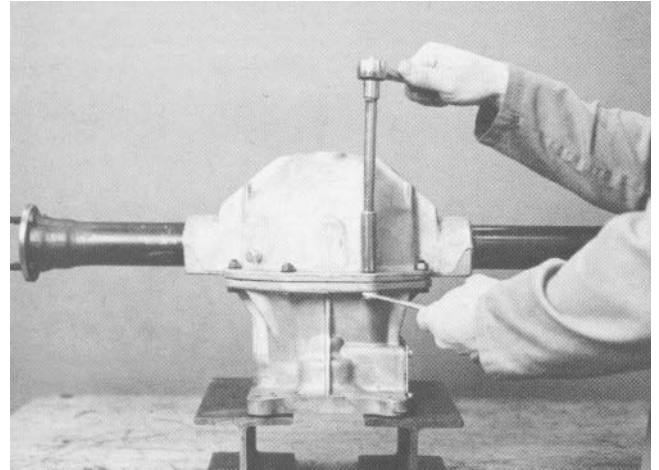

Figure 10
2. Remove the eight (8) housing cap screws and separate the upper and lower axle housings (Fig. 10). Clean the gasket material from the mating surfaces.